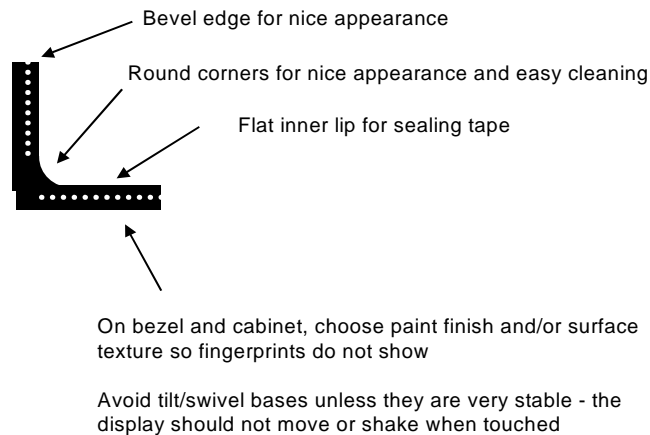

Figure 4.2 Bezel design
- Use two layers of the double-sided adhesive tape to achieve a total thickness of 1/16-inch (2 mm). While specific touchscreen and CRT combinations may allow the use of thinner materials, 1/16-inch (2 mm) is generally necessary to allow for variations in ROC between the two glass surfaces. Review the fit between the touchscreen and the CRT before applying the tape. If one pair of opposite edges has a closer fit than the other, put the adhesive tape on the edges of the touchscreen with the better fit. See figure 4-2 for typical placement. If there is a good fit on all four edges, you may want to use double-sided adhesive tape on all four edges. When doing this, move the adhesive tape in slightly on one pair of edges and add foam sealing tape outside these two edges. The thicker foam tape will keep the adhesive tape away from the CRT until you are ready to adhere the touchscreen to the monitor.
- Cut and place the foam sealing tape on the back of the touchscreen to form a dust seal as shown in Figure 4.2 on page 4-34. This seal is particularly important because the CRT is a good electrostatic precipitator and will attract dust. The adhesive tape and foam sealing tape should form a complete seal around the touchscreen. Do not leave any gaps. The sealing tape should not be visible when the monitor is reassembled.